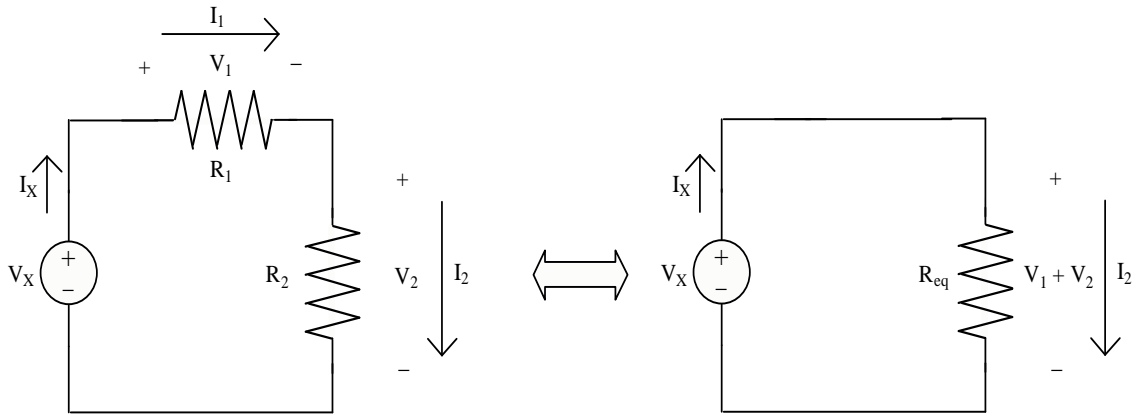

Figure 7
e. Resistors connected in series (see Figure7)
g. Voltage divider (see Figure 7)